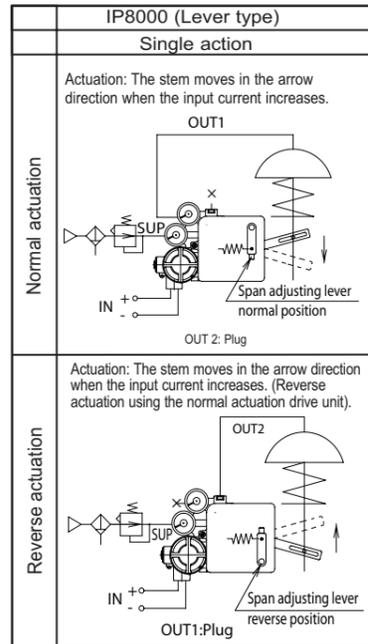

Fig.6 Direct / Reverse actuation
- (1) Check that the pipeline is correctly connected with the pressure supply port and OUT1 and OUT2 ports.
- (2) Check that the actuator and positioner are sturdily connected.
- (3) Check that the span adjustment lever for internal feedback is attached to the correct (normal or reverse) position (refer to Fig.6).
- (4) Check for locking of the auto / manual changeover screw of the pilot valve (fully tightened in the clockwise direction).
- (5) Check that the wires are connected correctly to the (+), (-) and Ground terminals.